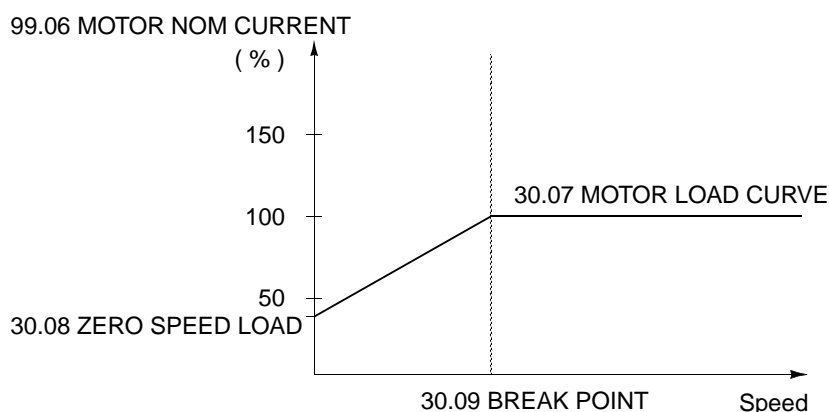

Figure 6-19 Motor Load Curve.
- Motor heating is calculated assuming a load curve (Figure 6-19). The motor will heat above nominal temperature if it operates in the region above the curve, and cool if it operates below the curve. The rate of heating and cooling is set by MOTOR THERM TIME.
This parameter defines the point at which the motor load curve begins to decrease from the maximum value set by Parameter 30.07 MOTOR LOAD CURVE to the Parameter 30.08 ZERO SPEED LOAD. Refer to Figure 6-19 for an example of motor load curve.